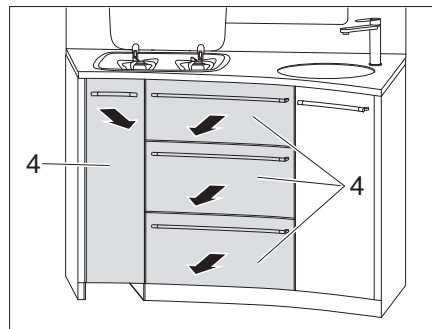

Fig. 127 Removing kitchen drawers
- Remove the kitchen drawers (Fig. 127,4).